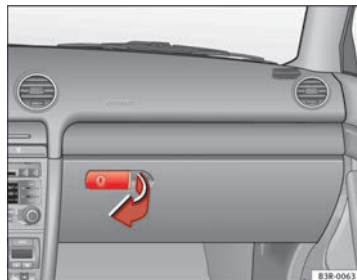

Fig. 137 Glove compartment
- Pull the handle on the lid in the direction indicated (arrow) ⇒ Fig. 137 and open the lid.